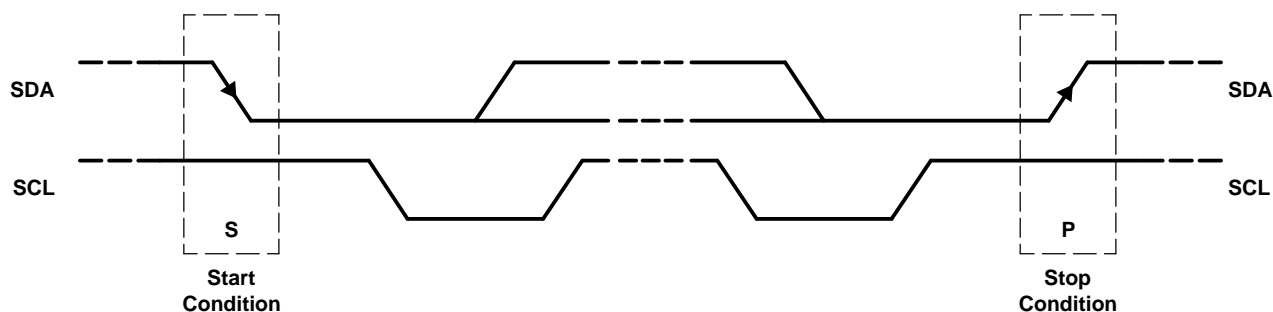

Figure 29. START and STOP Conditions
- The *master* initiates data transfer by generating a *start condition*. The *start condition* is when a high-to-low transition occurs on the SDA line while SCL is high, as shown in Figure 29. All I²C-compatible devices recognize a *start condition*.
- To signal the end of the data transfer, the master generates a *stop condition* by pulling the SDA line from low to high while the SCL line is high (see Figure 29). This releases the bus and stops the communication link with the addressed slave. All I²C-compatible devices must recognize the stop condition. Upon the receipt of a *stop condition*, all devices know that the bus is released, and they wait for a *start condition* followed by a matching address.